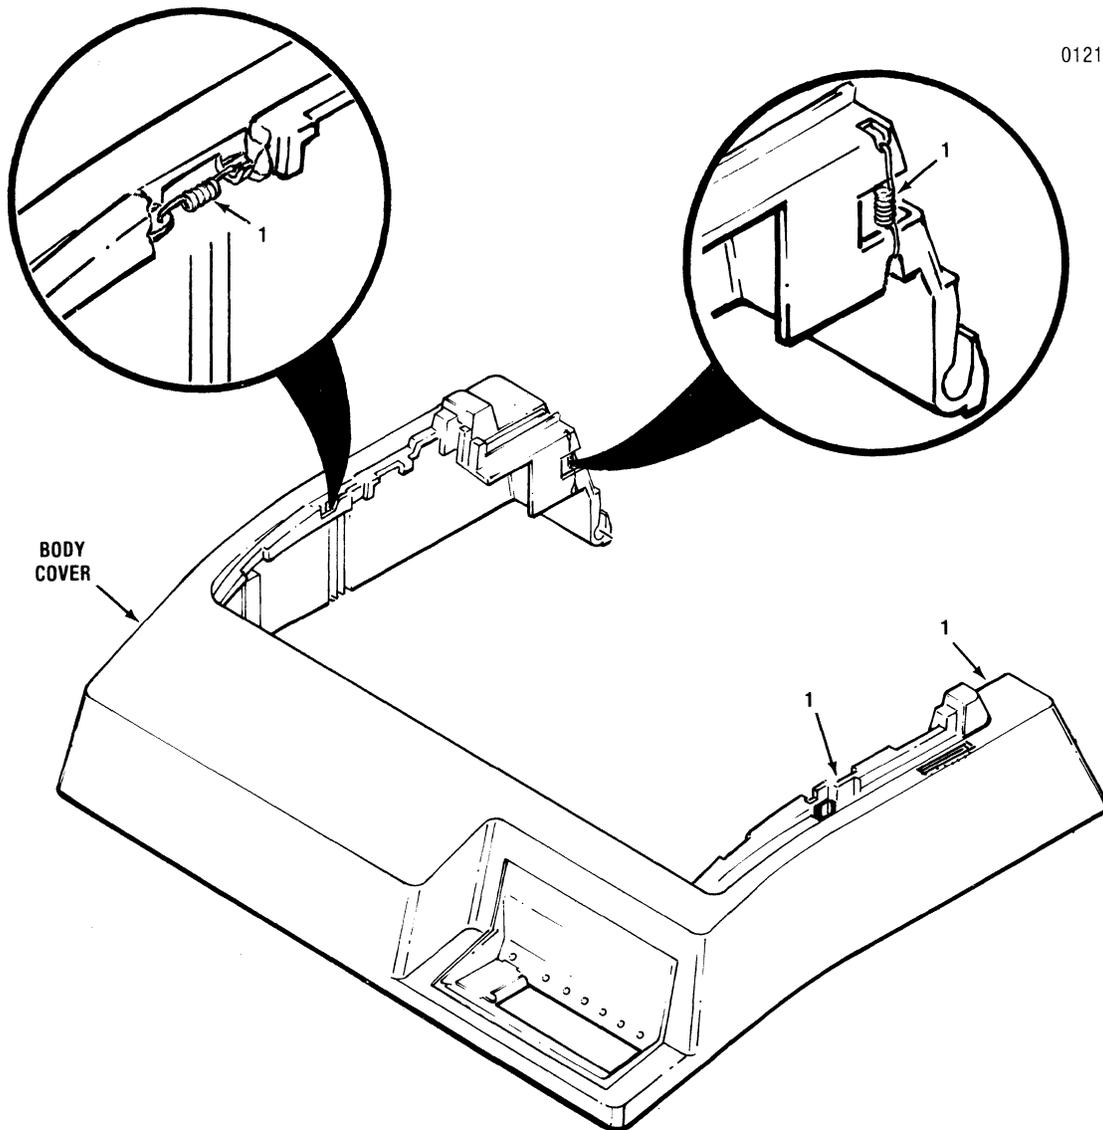

Figure 5-22 Removal/Replacement, Cover Latch Springs
Four small springs, item 1 of Figure 5-22 are located on the inside of the body cover to help secure the top and rear covers to the body cover.
To remove any of the four springs, refer to Figure 5-22 and perform the following steps: